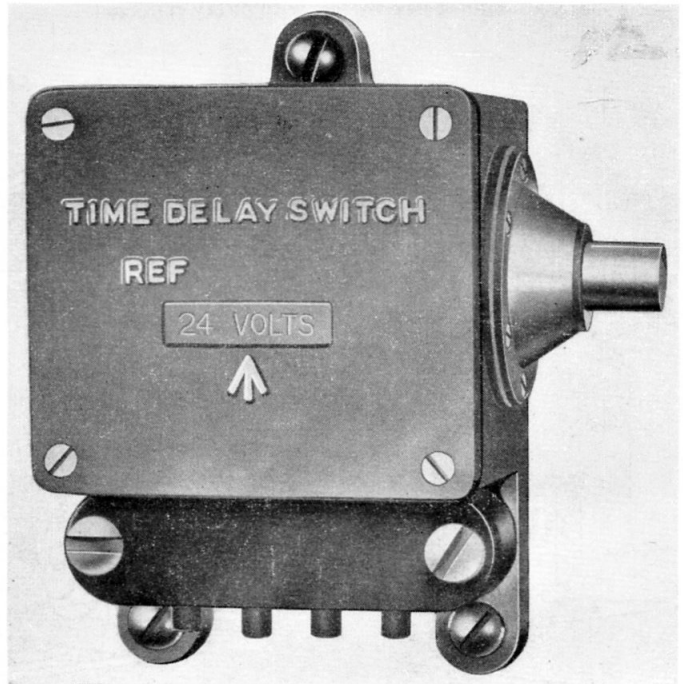

Fig. 1. Time delay switch
3. The switch (fig. 1 and 2) incorporates